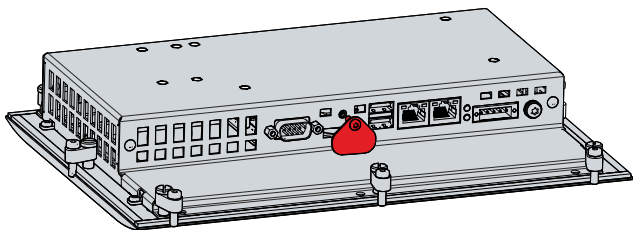

Fig. 17: CP6600_Access to battery and storage medium
2. Insert the new battery into the PC by hand. Make sure that the polarity is correct as shown in Fig. 17.